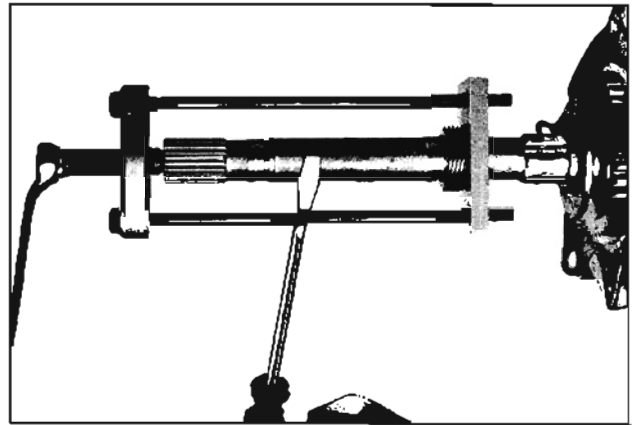

Fig. 7-208 Removing Speedometer Gear with J-6123
7. Remove speedometer gear and reverse gear. The speedometer gear may be removed using Tool J-6123 as shown in Fig. 7-208.